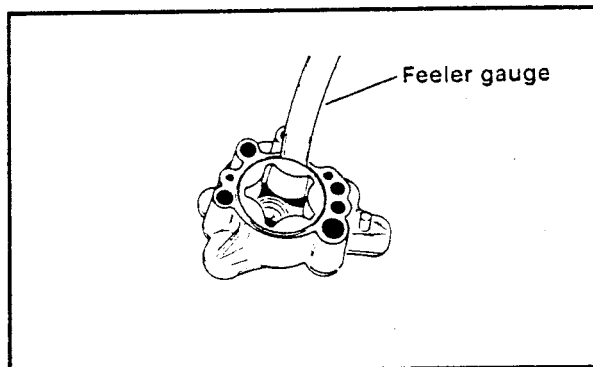

Figure 2-135. Oil Pump Body Clearance
2. See Figure 2-135. Measure the oil pump body clearance.